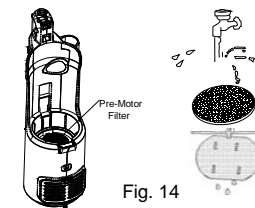

Fig. 14
- Remove the dust cup container, the non-woven pre-filter and the HEPA filter to remove the pre-motor filter. (Fig. 14)